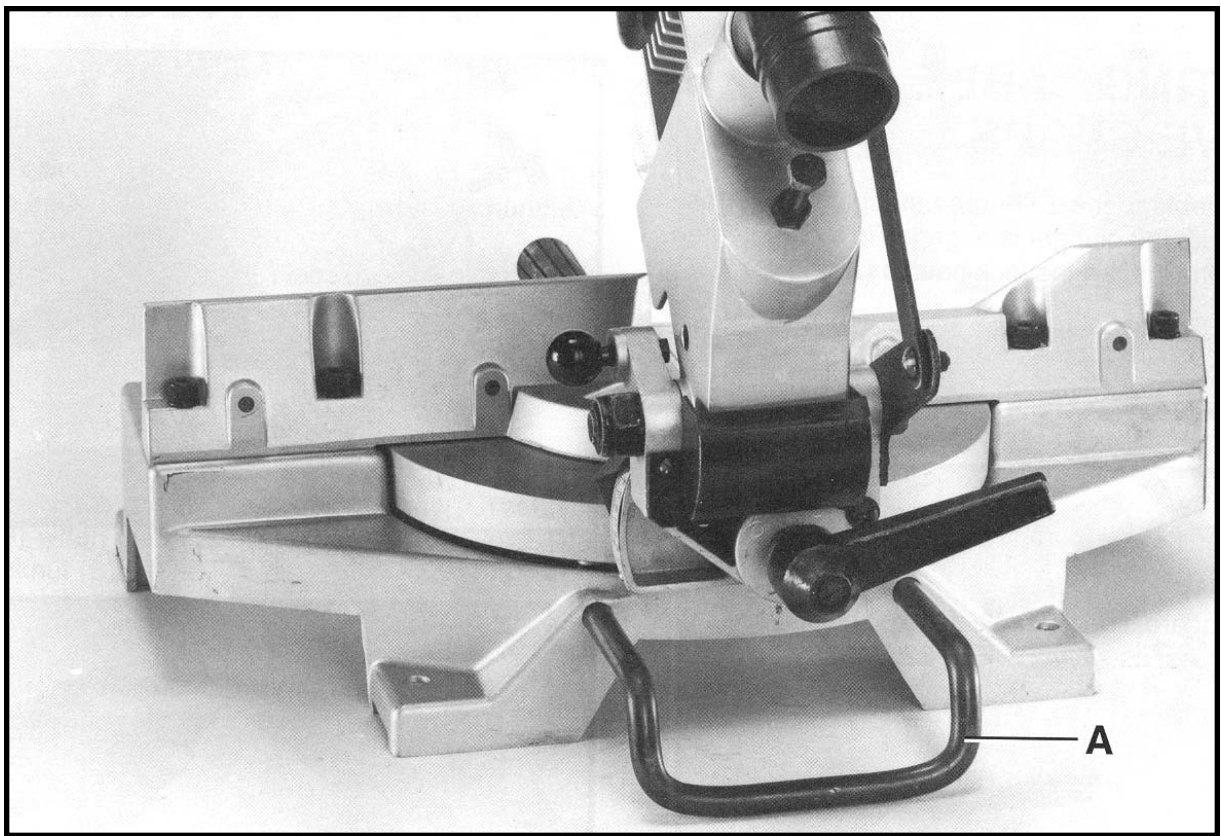

Fig. 19
A rear support bar (A) Fig. 19, is provided to prevent the miter box from tipping to the rear when the cuttinghead is returned to the up position after a cut has been made. For maximum support the bar (A) should be pulled out as far as possible.